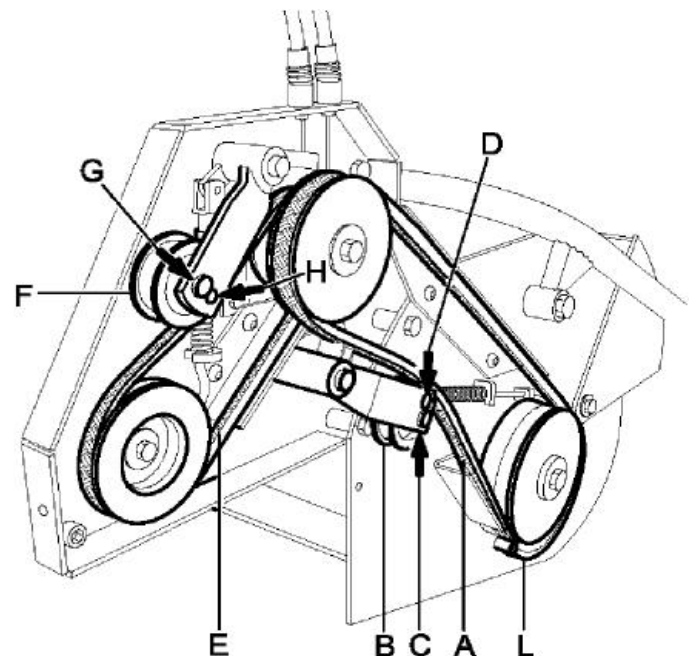

Figure 9
- If the belt (fig. 9 ref. A) is slack and therefore unable to ensure proper drive to the flail rotor, move the tightener (fig. 9, ref. B) from the lower hole (hole C) to the upper hole (hole D).
- If the belt (fig. 9 ref. E) is slack and therefore unable to ensure proper drive to the flail rotor, move the tightener (fig. 9, ref. F) from the lower hole (hole G) to the upper hole (hole H).